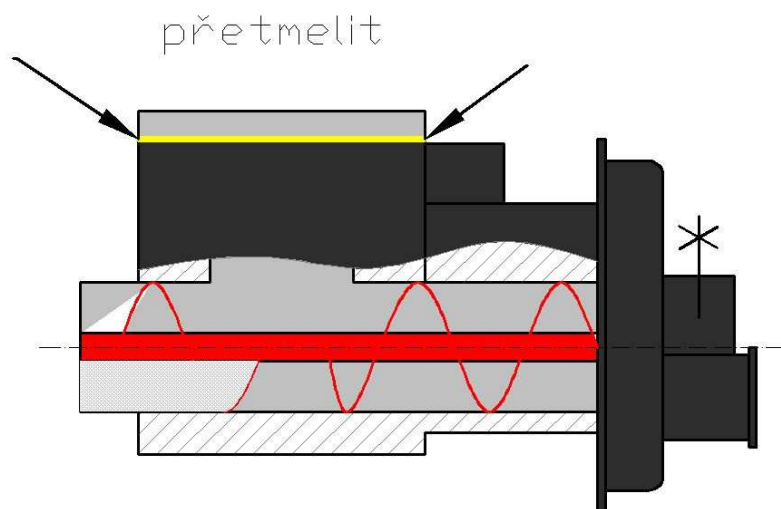

Figure 8 Sealing the top cast-iron collar and flange
5. Use stove sealant on the collar and put it back (Figure 8)